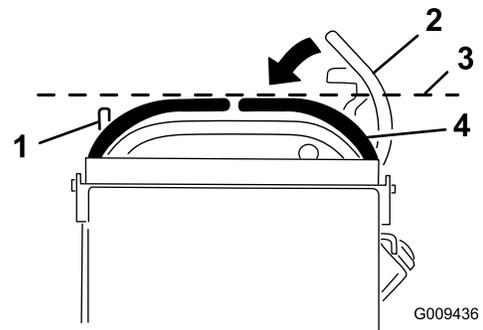

**Figure 40**
8. Route the new belt around the engine pulley and 2 transmission pulleys (Figure 40).